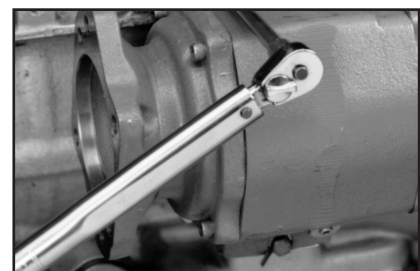

Figure 16
4. Place the special gasket (35-P-84) on the plate (**Fig. 16**). See step 3.